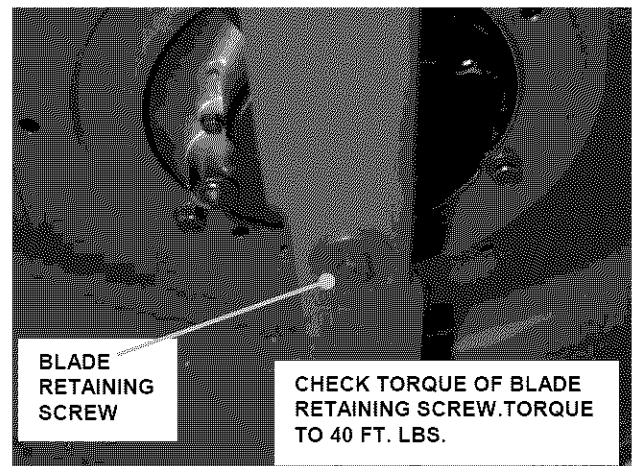

FIGURE 3.2
2. Tilt mower up on its rear wheels for access to the blade cap screw. Do not tilt mower with spark plug or carburetor down. See Figure 3.2.
3. Check torque of blade retaining cap screw. Recommended torque should be 40 ft. lbs. See Figure 3.2.
6. Reinstall blade. See Figure 3.2. Check torque of blade retaining cap screw. Recommended torque should be 40 ft. lbs.